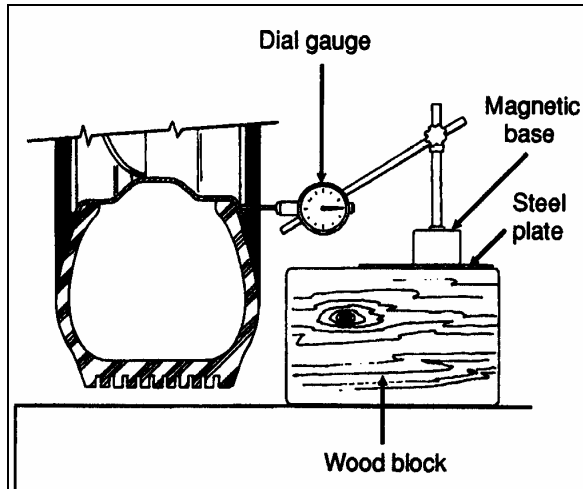

FIGURE 3: DIAL GAUGE INSTALLATION 13008
2. Check wheel lateral runout. Install a dial gauge as shown in Figure 3, then rotate the wheel by hand one full turn. As the wheel turns, note any variation on the dial gauge;